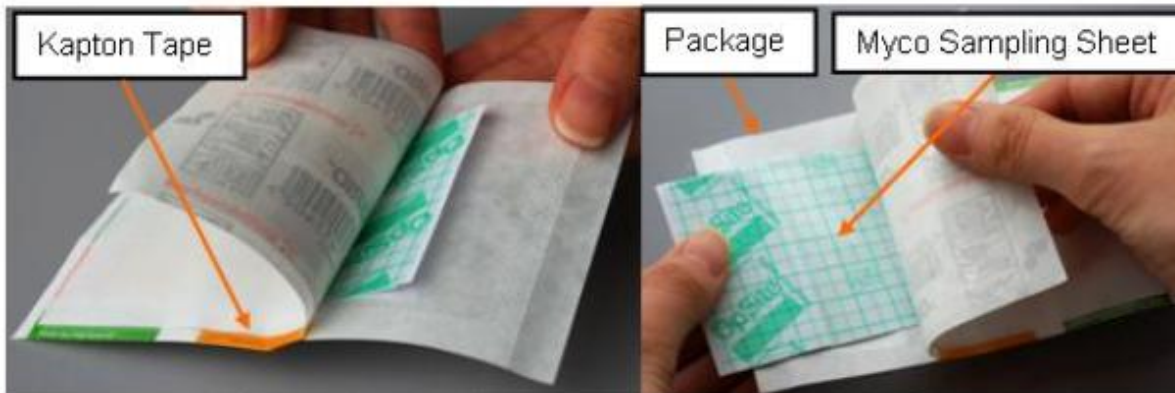

Figure 1. Opening the package of Myco Sampling Sheet.
- 2.1 Remove Myco Sampling Sheet package for left cheek from Myco Kit. Refer to Figure 1.
Refer to Figure 1.